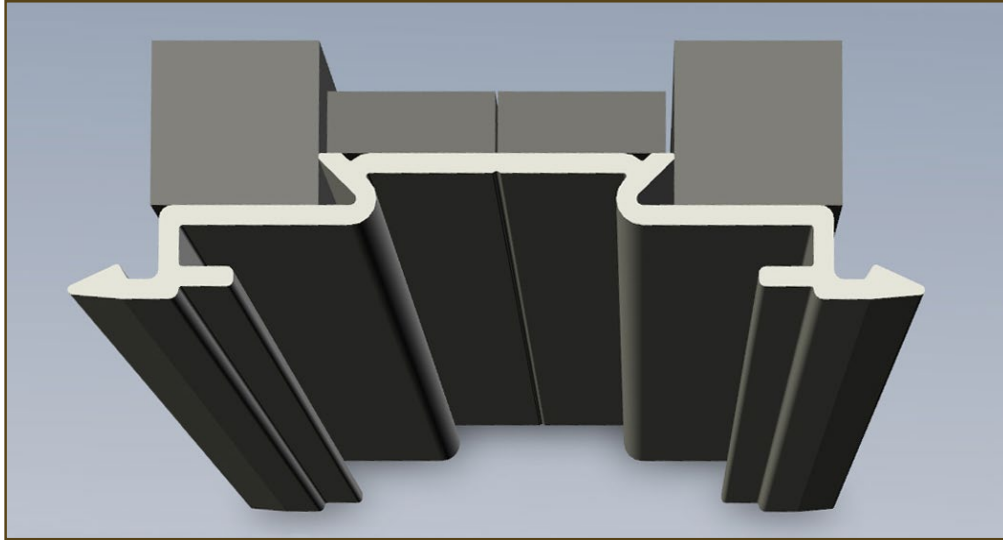
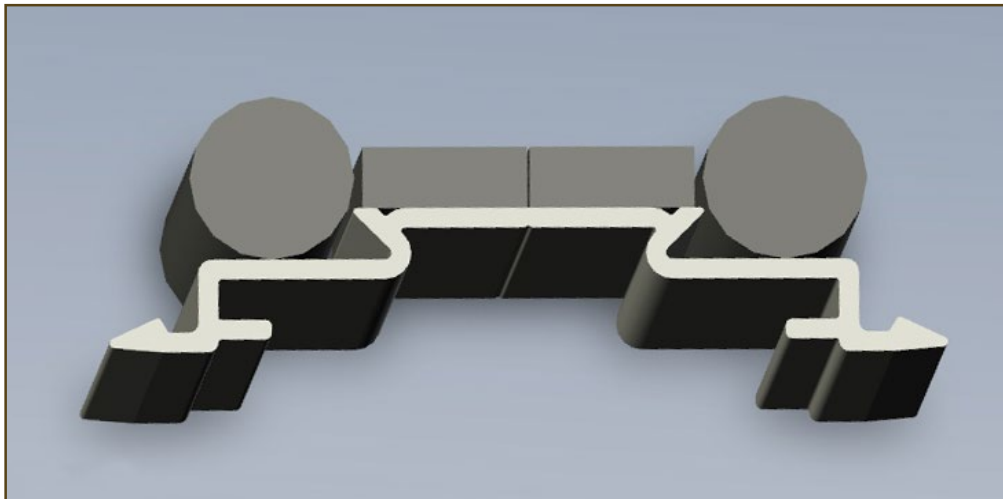

Figure 5. Wallflower with CSF tape applied to full height of Extrusion
Figure 6. Wallflower with CSF tape applied to full height of Extrusion. Option to Figure 1
1. Wallflower with Closed Cell Foam (CSF) tape applied to full height of Extrusion. One (1) layer of 1/4" thick x 1/2" wide (6mm x 13mm) CSF tape on either side of Wallflower back (broken at centerline) + one (1) layer of 1/2" thick x 1/2" wide (13mm x 13mm) CSF tape on either side of the first Wallflower Extrusion drop. See Figure 5 below.
2. Wallflower with CSF tape applied to full height of Extrusion. See Figure 6 below. One (1) layer of 1/4" thick x 1/2" wide (6mm x 13mm) CSF tape on either side of Wallflower back (broken at centerline) + one (1) layer of 1/2" (13mm) diameter closed cell backer rod on either side of first Wallflower Extrusion drop (option to Figure 5).